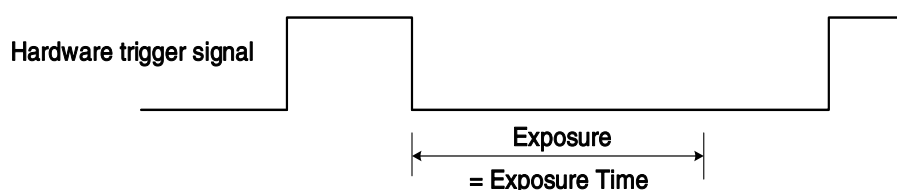

Figure 8-28 The sequence diagram in falling edge trigger of Timed exposure mode
- If falling edge triggering is enabled, exposure starts when the trigger signal falls and continues until the exposure time has expired, as shown in Figure 8-28